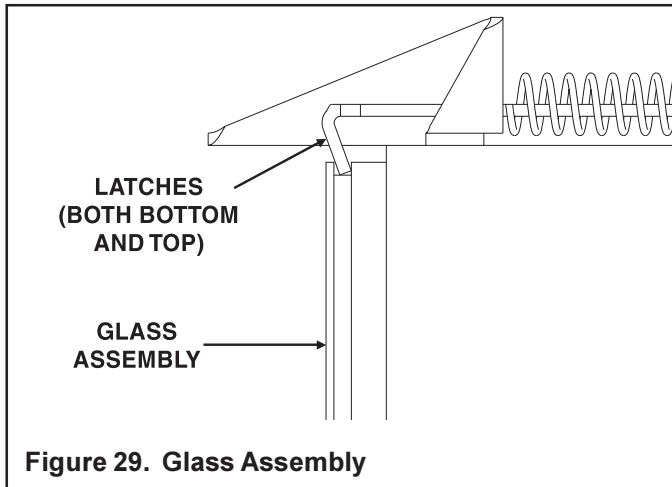

Figure 29. Glass Assembly
- Remove the glass door from the unit (see Figure 29).